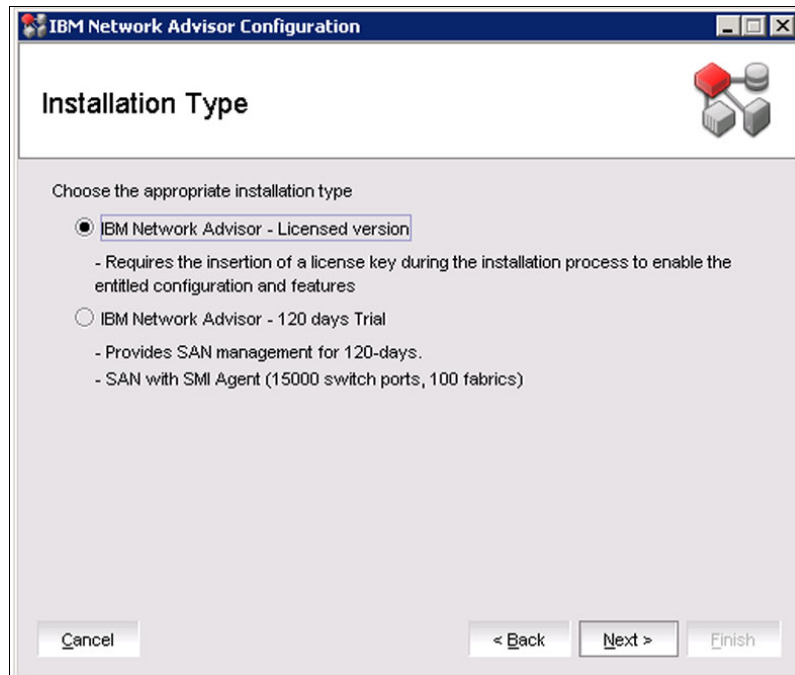

Figure 4-12 Choosing the installation type
10. The Installation Type window opens and prompts you to choose an installation type, as shown in Figure 4-12.